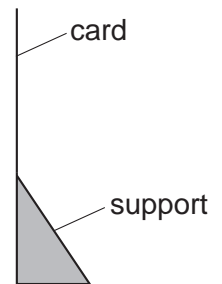

Fig. 4.3
- (iv) Screen. (A white sheet of stiff card approximately 150 mm x 150 mm, fixed to a wooden support, is suitable. See Fig. 4.3.)